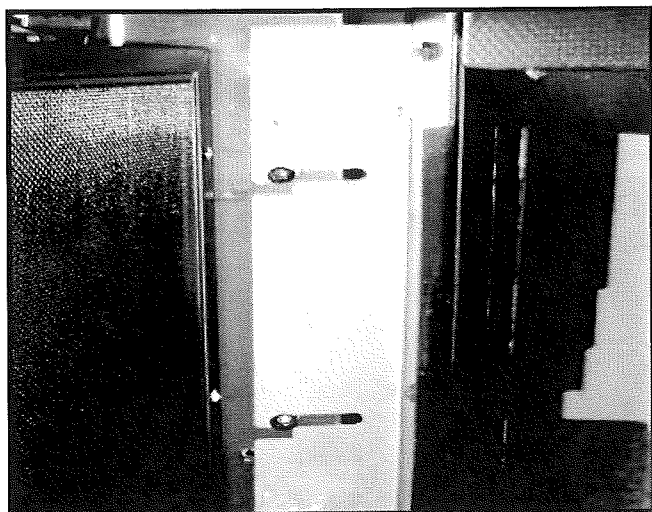

Figure 5. Screws Installed.
7. Push front towards fireplace while holding decorative front firmly in place and tightening the top two left and right screws, followed by the bottom two left and right screws. See Figure 5.